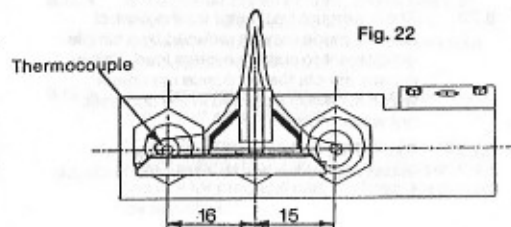
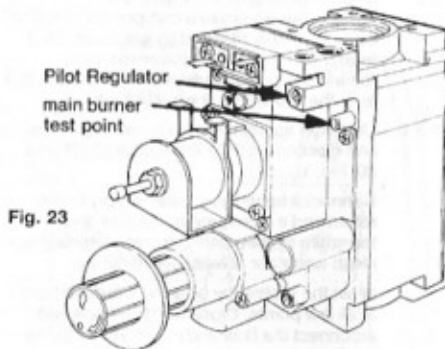

Fig. 22
Fig. 23
6.5.5 The pilot flame should remain alight and envelope the thermocouple (see fig. 22). If it goes out, wait 3 minutes and repeat from 6.5.4
**6.5.7** Refer to fig. 22 and check that the pilot flame is correct. If it is necessary to adjust the flame refer to cl. 5.7.2 for access instructions. Fig. 23 shows the location of the adjustment screw. Turning clockwise decreases flame and vice versa.
**6.7.4** Locate the main burner pressure test point (Fig. 23) and slacken the screw half a turn in an anti clockwise direction. Attach a suitable pressure gauge. Turn on the main electricity supply, turn on a domestic hot water tap to operate boiler in dhw mode. Adjust the hot water thermostat to maximum setting.
**6.10.1** With the burner on high flame, turn the gas knob in a clockwise direction and confirm that a definite 'click' is heard. Relight pilot (6.5.4). Fig. 23